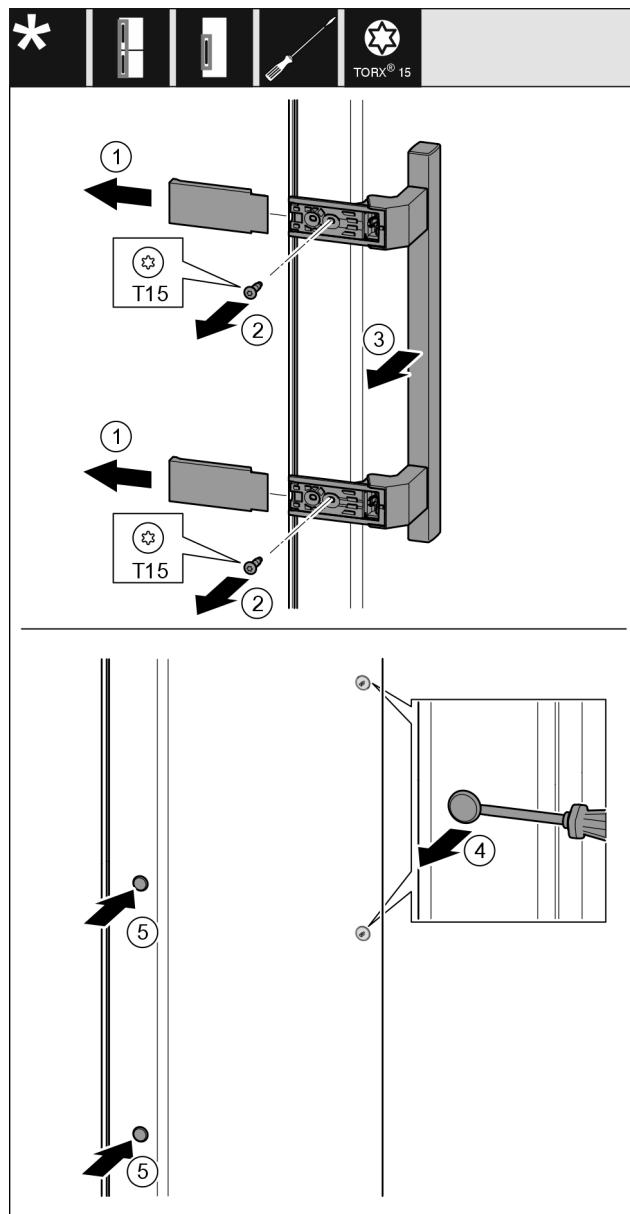

Fig. 8
- Pull off the cover. Fig. 8 (1)
- Unscrew the screws with a Torx 15 screwdriver. Fig. 8 (2)
- Take off the handle. Fig. 8 (3)
- Carefully lift the side plug with a slotted screwdriver and pull it out. Fig. 8 (4)
- Replace the plug on the other side. Fig. 8 (5)